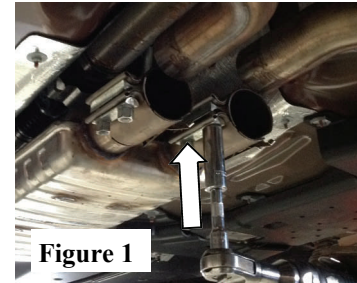
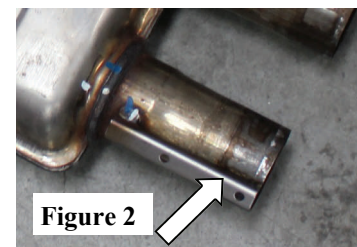

Figure 1
Figure 2
**1014040:** Loosen (2) factory band clamps on the front factory mid-muffler. (See Fig.1)
**1014039 only:** Loosen (1) factory clamp on the front factory mid-muffler.
- Beginning with the left-side, use a flat blade screwdriver and twist to release the pin and slide the left-side band-clamp away from the muffler. (See Fig. 2)